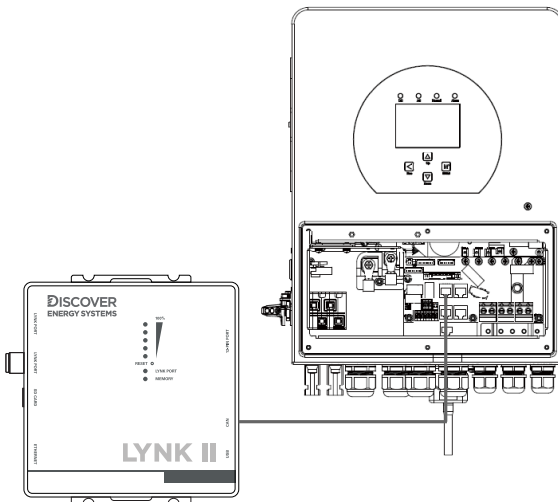

Figure 6. NOARK CANopen Connection
- Using a USB cable with a Type-B mini-plug, connect the 64-bit Windows 10 device running LYNK ACCESS software to the USB port on LYNK II. Ensure LYNK II is powered and connected to the correct NOARK COM port. Refer to Figure 6. NOARK CANopen Connection.